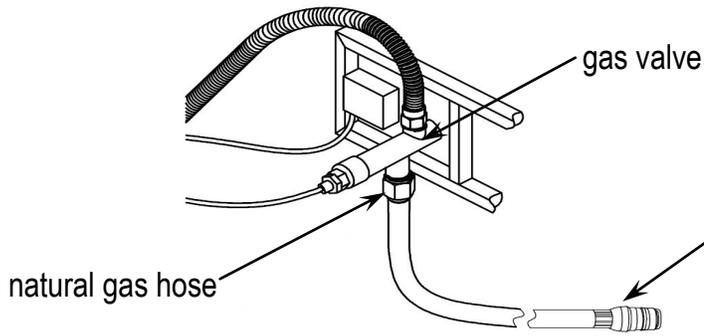
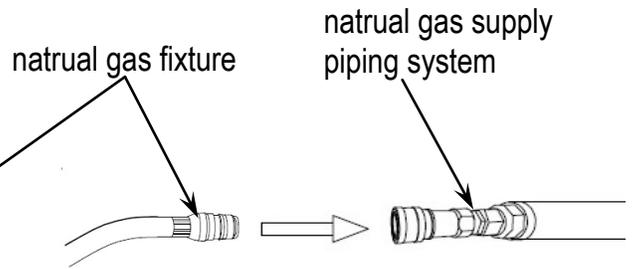

Figure 15
Figure 16
4. Connect the natural gas hose with the gas valve by screwing clockwise tightly (see Figure 15). Plug the natural gas fixture into the natural gas supply piping system (see Figure 16).